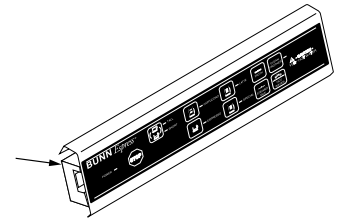

FIG. 1
1. Place the program switch in the "Program" (right) position. The program switch is located behind the switch/LED panel. See Fig. 1